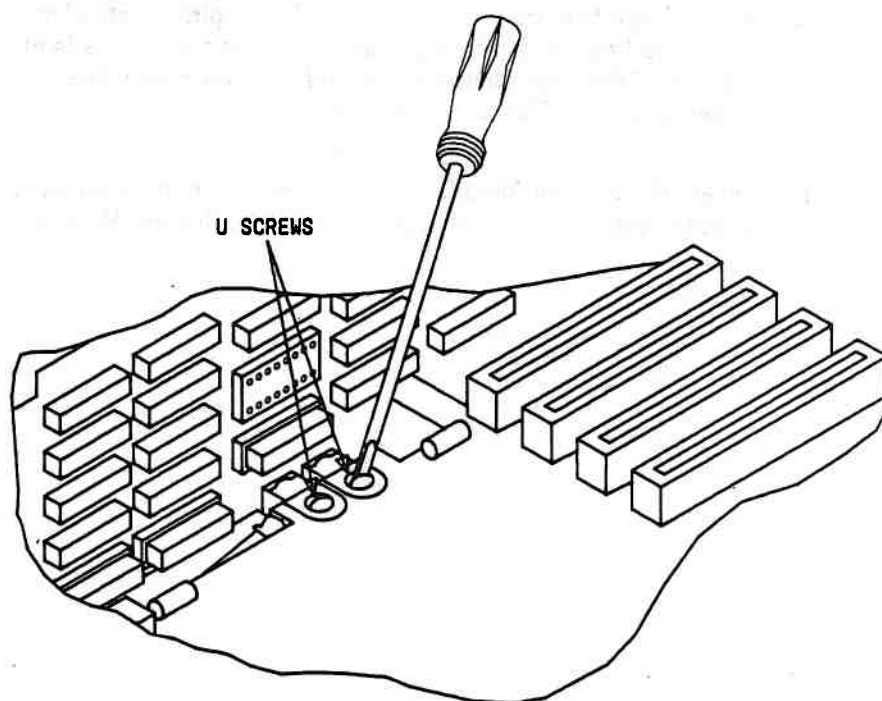

Figure 5-55. Bus Converter +5 V dc and GND Terminal Connectors
7. Loosen the two screws that secure the +5 and GND terminals of the Bus Converter to the Display Controller (Figure 5-55).